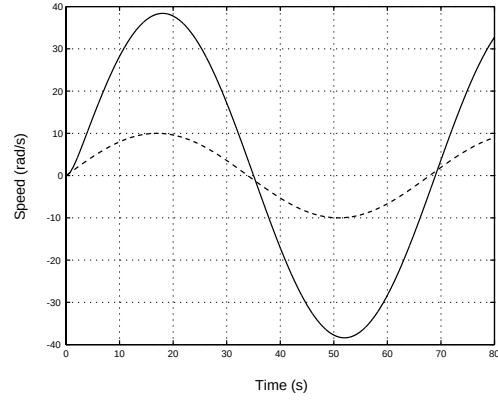

Figure 9: Time response of system for $u_1(t) = 10 \sin(0.2\pi f_b t)$.
- (e) The time response of the system with sinusoidal inputs is shown in Figures 9 to 11. The frequency of the input $u_1(t) = 10 \sin(0.2\pi f_b t)$ is 10 times lower than the break frequency so the phase lag should be approximately $\text{deg } -6$ and the gain between the output and the input is approximately $|G(j\omega)| = R^{-1} = 3.858$. For our input amplitude of 10, the amplitude of the output should be ≈ 38.58 . The frequency of the input $u_2(t) = 10 \sin(2\pi f_b t)$ is equal to the break frequency, so the phase lag should be $\text{deg } -45$ and the gain between the output and the input is